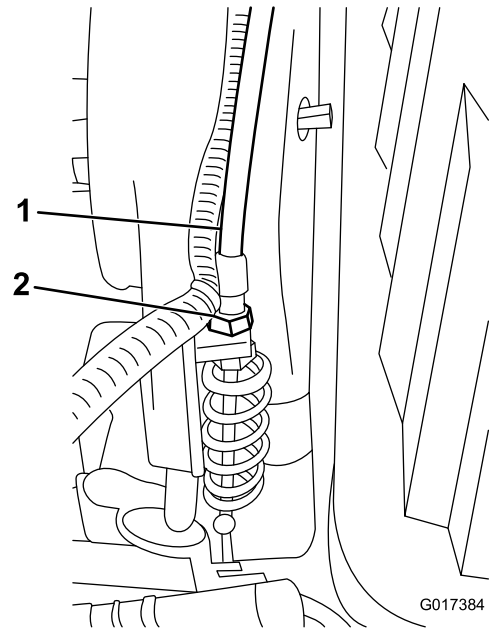

Figure 45
3. At the transmission bulkhead, adjust the reel control cable (Figure 45), to attain a spring length of 70.6-72.4 mm (2.78-2.85 inches).